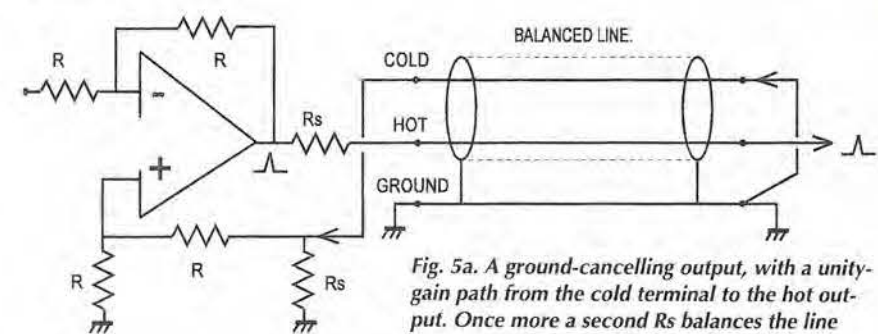

Fig. 5a. A ground-cancelling output, with a unity-gain path from the cold terminal to the hot output. Once more a second  $R_s$  balances the line impedances.
**Ground-cancelling output.** Also called a ground-compensated output, this arrangement is shown in Fig. 5a.